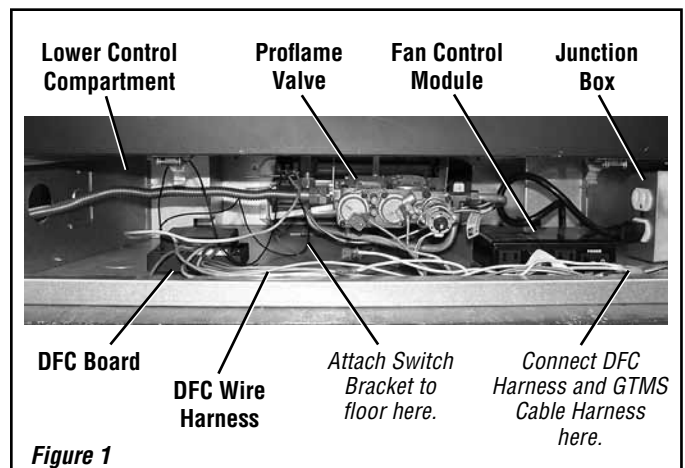

Figure 1
- Step 4. Remove the four (4) screws attaching the top burner assembly; then remove the top burner.
- Step 5. Remove the ten (10) screws attaching the existing Honeywell gas train assembly (GTA); then remove the GTA.
- Step 7. Install the new Proflame GTA components in the following order (refer to **Figures 1, 2, and 3**, below and on the reverse):